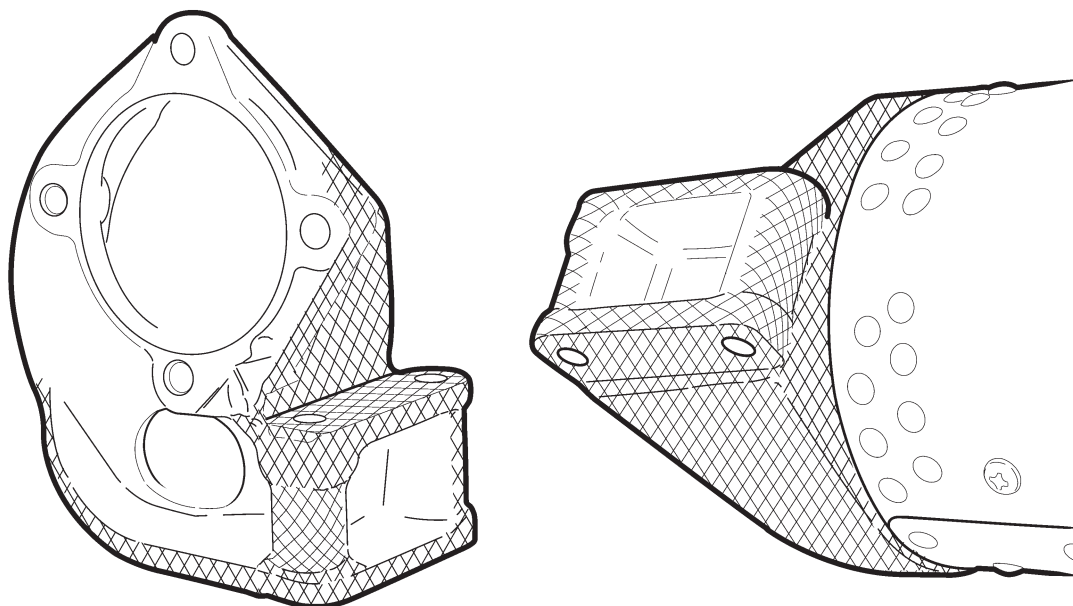

FIGURE 2-23 PENETRANT INSPECT CROSS-HATCHED SURFACES OF A148 BULKHEAD
1. On associated tailcone's A148 bulkhead, strip paint from cross-hatched surfaces shown in Figure 2-23 using § 23-71 approved materials.